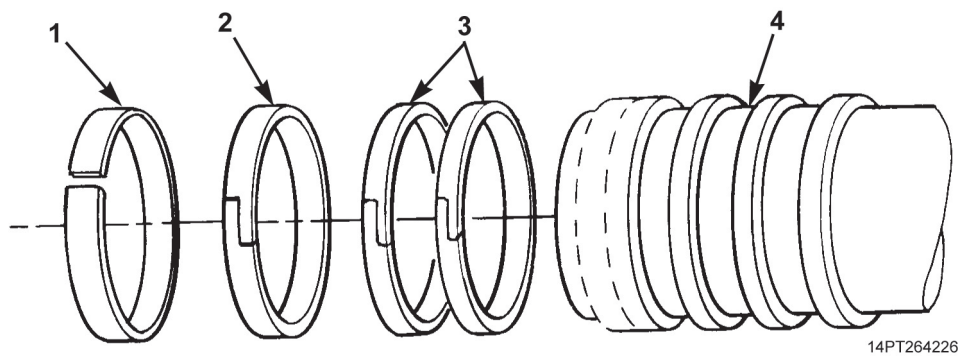

Figure 24. Wear Ring and Piston Ring Installation.
8. Install two piston rings (Figure 24, Item 3), piston ring (Figure 24, Item 2), and new wear ring (Figure 24, Item 1) on sleeve (Figure 24, Item 4).